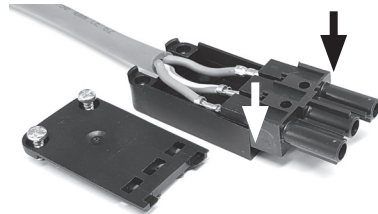

Fig. 11
2. Press the middle part firmly into the bottom part until it snaps in. Pay attention to the correct orientation of the middle part - see Fig. 11.